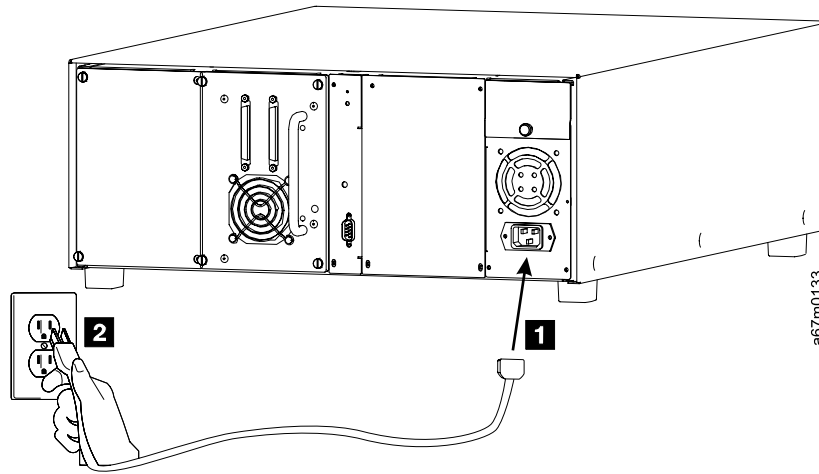

Figure 21. Connecting the power cord (US power outlet shown)
2. Plug the power cord (see **1** in Figure 21) into your library.
3. Plug the power cord from the library into a grounded electrical socket (see **2** in Figure 21).